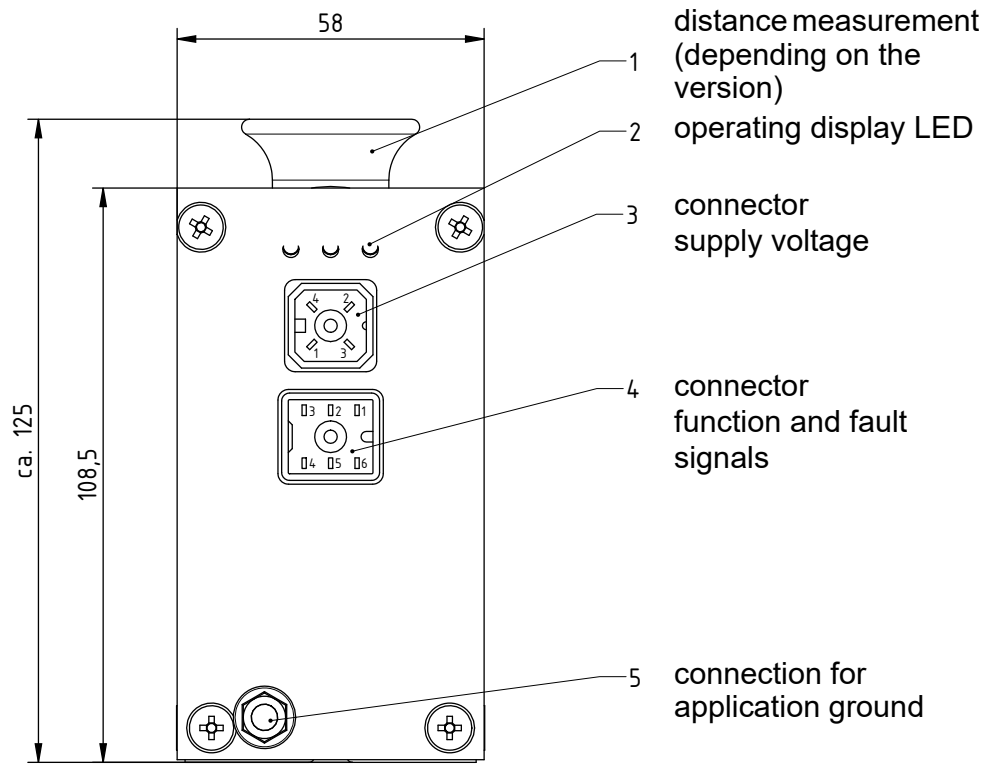

Fig. 1:
- A permanent ground connection must be made via the grounding terminal over the shortest possible distance to the conductive machine contact (6, Fig. 1). A grounding cable with a conductor cross-section of 10 mm² and a maximum length of 1 meter is required for trouble-free operation (see chapter 3.3 "Ground connection", page 13).